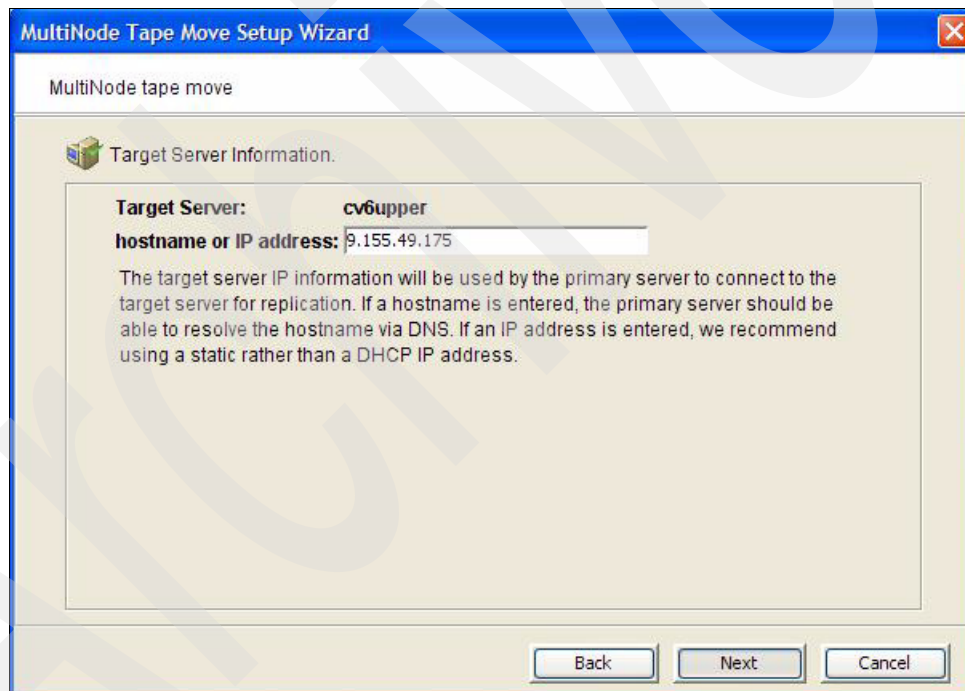

Figure 12-31 Entering the hostname or IP address of target TS7530 node
4. In the following window (see Figure 12-31), you must then enter the hostname or IP address of the target TS7530 node. Click **Next**.